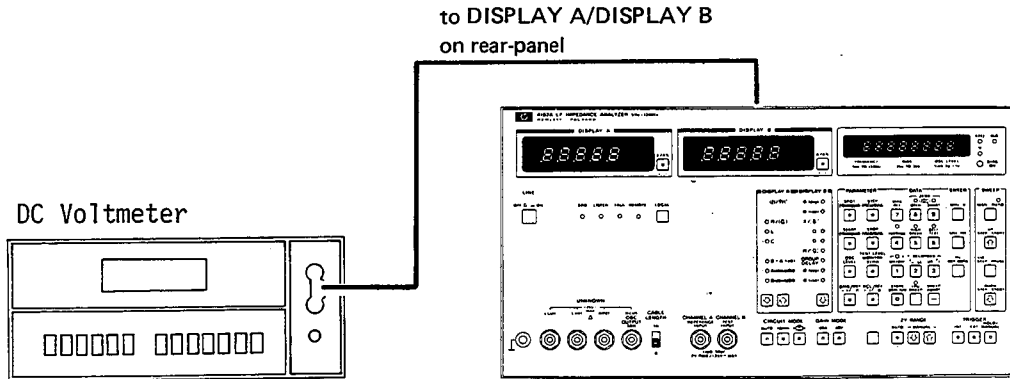

Figure 4-11. Recorder Output Voltage Accuracy Test Setup.
- a. Connect the INPUT of the 3465A to the DISPLAY A terminal on the rear panel of the 4192A as shown in Figure 4-11.